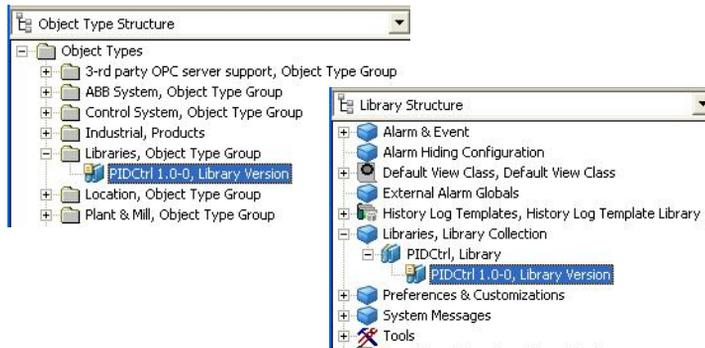

Figure 403. New Library Version in the Object Type Structure and Library Structure
- Now a Library object is created for the new library and a Library Version object for the first version of the library is created. The Library Version is also inserted in the Object Type Structure, at the specified insertion point, refer to Figure 403.